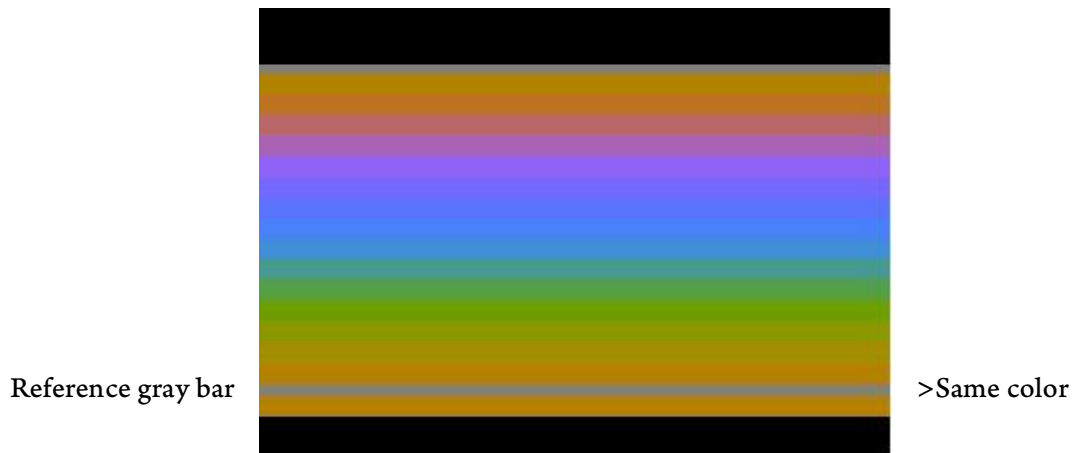

Figure 3-3. Color Bar Test Screen
This test verifies and allows for adjustment to the color circuitry. Enter the command letter C and press RETURN to activate this test. Figure 3-3 is a black and white representation of what your television display screen should look like.
3. Adjust RF modulator for correct Color Bar Test Screen (See Page 3-5, Figure 3-3).